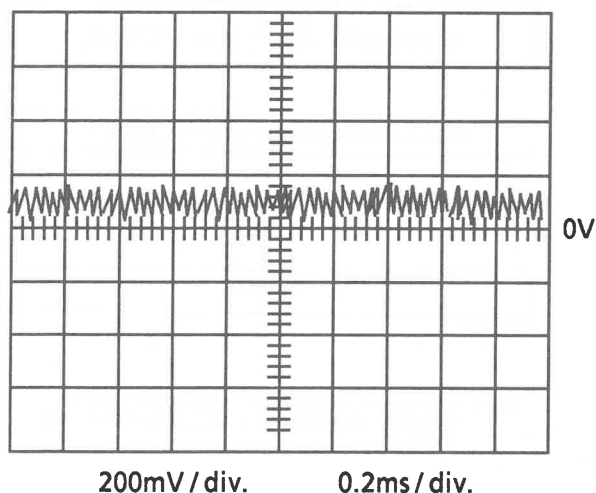

Figure. 1
- 1) Connect an oscilloscope to TP 6(FE) and TP 3(GND).
- 3) Adjust R603(F.GAIN ADJ.) so that the waveform becomes below figure 1.